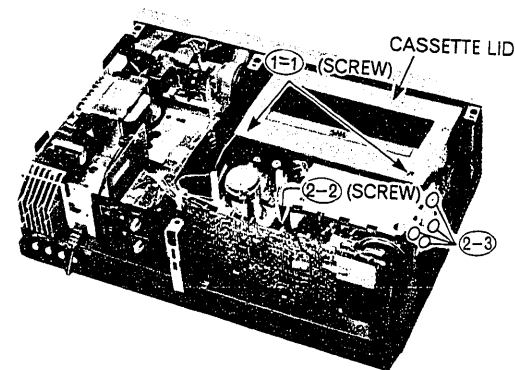

Fig. 17 Cassette Lid/Shield Cover
1. Cassetts Lid (Fig. 17)
2. Shield Cover (Fig. 17)